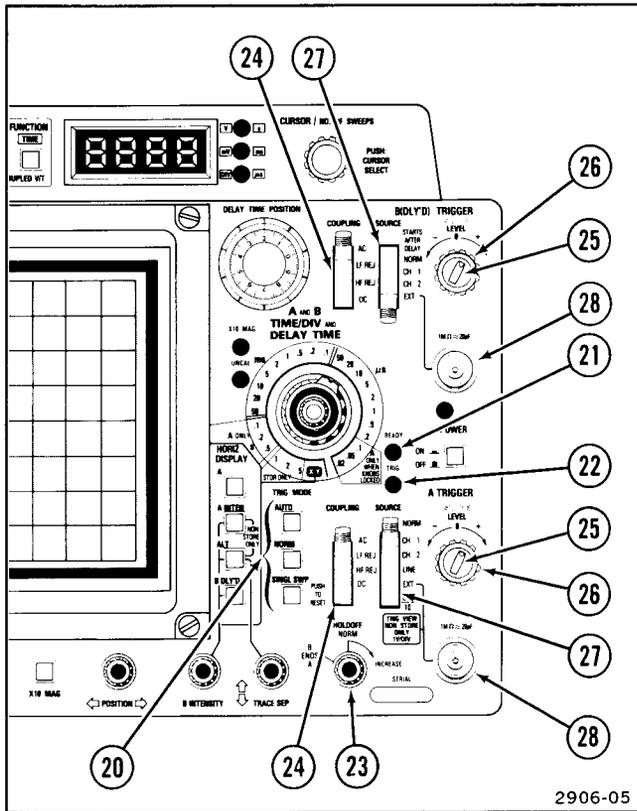

Figure 5. Trigger controls, connectors, and indicators.
Refer to Figure 5 for location of items 20 through 28.